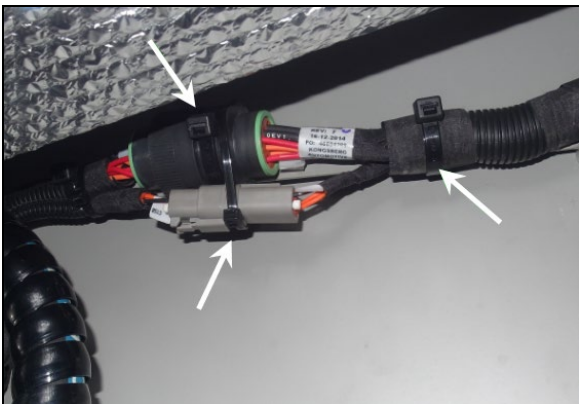

Fig.12
8. Cut the three (3) cable ties and disconnect the condenser wiring harness in the condenser compartment (two connectors Fig.12 & 13).